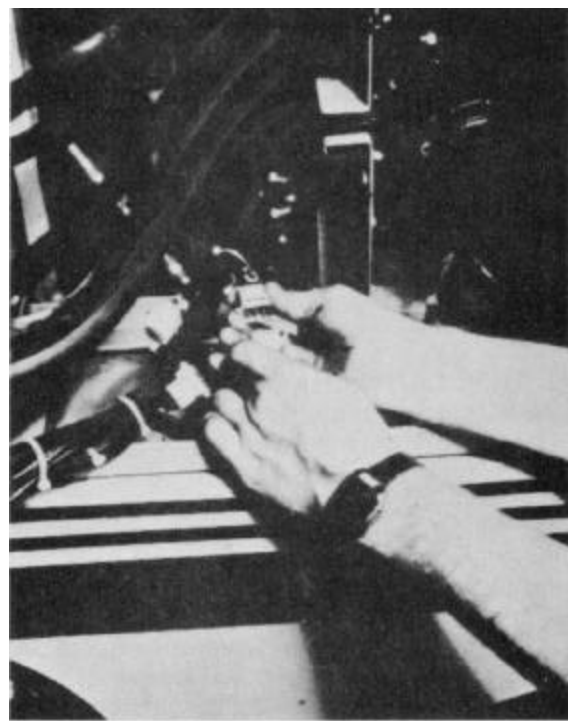

Figure 5-165
2. Disconnect (2) quick disconnect electrical control cables (Fig. 5-165).